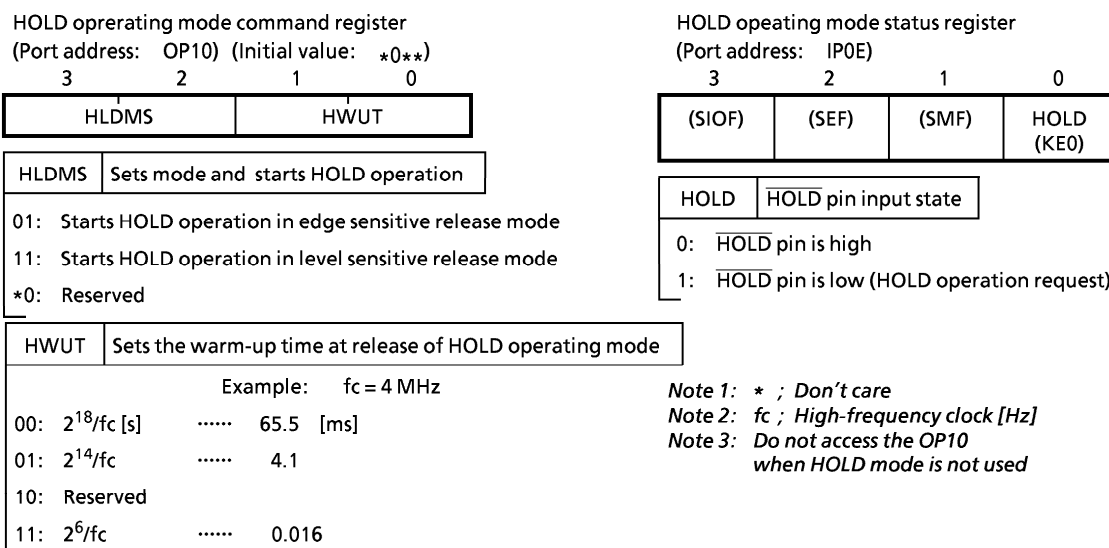

Figure 2-21. HOLD operating mode command register/status register
- ① The high-freq. oscillator starts.
- ② Warm-up is performed to acquire the time for stabilizing oscillation. During the warm-up, the internal operations are all stopped. One of three warm-up times can be selected by program depending on the characteristics of the oscillator used.
- ③ When the warm-up time has passed, an ordinary operation restarts from the instruction next to instruction which starts the HOLD operation. At this time, the interval timer starts from the reset state "0".
- * The warm-up time is obtained by dividing the basic clock by the interval timer, so that, if the frequency at clearing the HOLD operation is unstable, the warm-up time shown in Figure 2-21 includes an error. Therefore, the warm-up time must be handled as an approximate value.